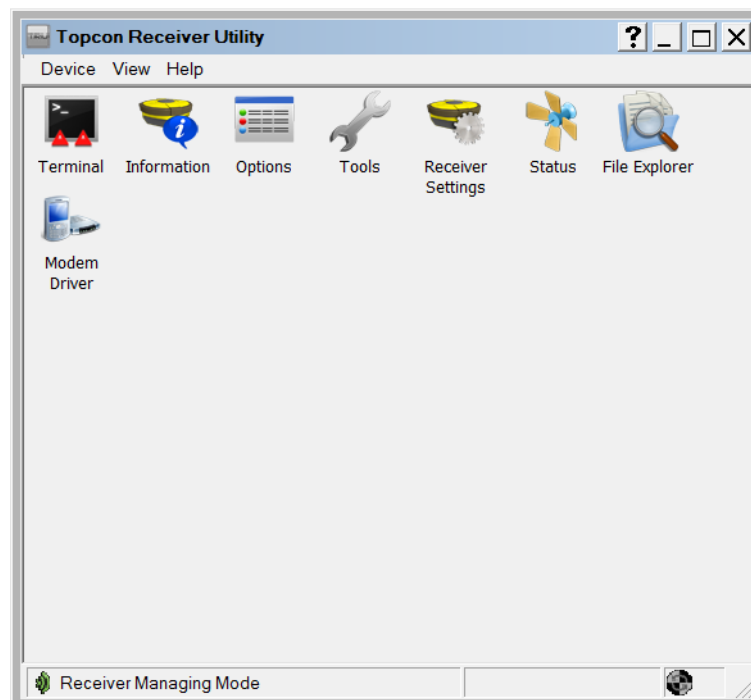

Figure 17: TRU – Main Screen
2. Start TRU on the computer. The TRU main screen displays (Figure 17). Initially the tools are inactive.
1. Start TRU on the computer. The TRU main screen displays (Figure 17 on page 20). Initially the tools are inactive.